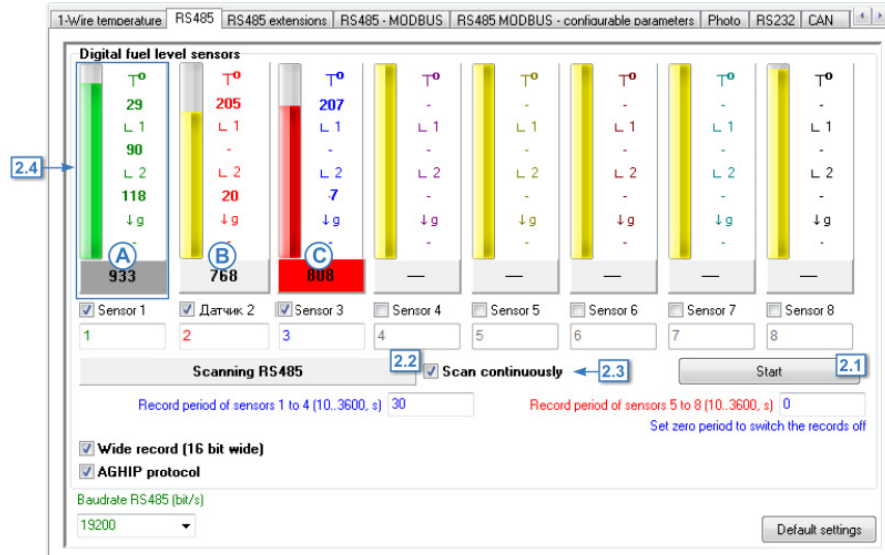

Fig.36. Diagnostics of RS-485.
- Start test pressing the “Start” button on the RS485 tab (Fig.36, i. 2.1). When the scanning is on the “Scanning RS485” message is displayed (Fig.36, i. 2.2). By default the scanning continues 20 seconds and automatically stops. To scan RS-485 bus continuously, check the “Scan continuously” option (Fig.36, i. 2.3).